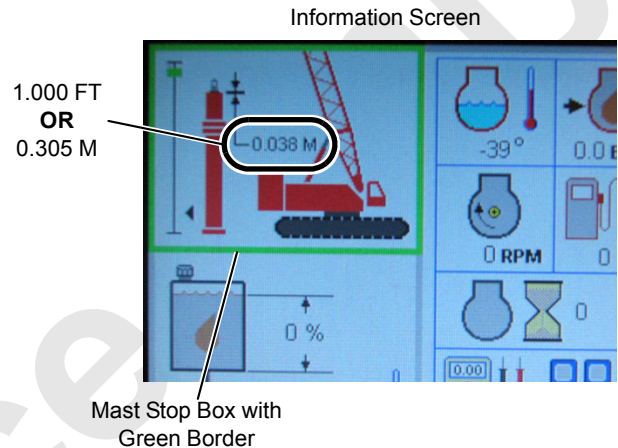

FIGURE 4-10
See Figure 4-10 for the following procedure.
1. On the main display in the crane cab, select the mast stop box in the information screen (see Figure 4-10).